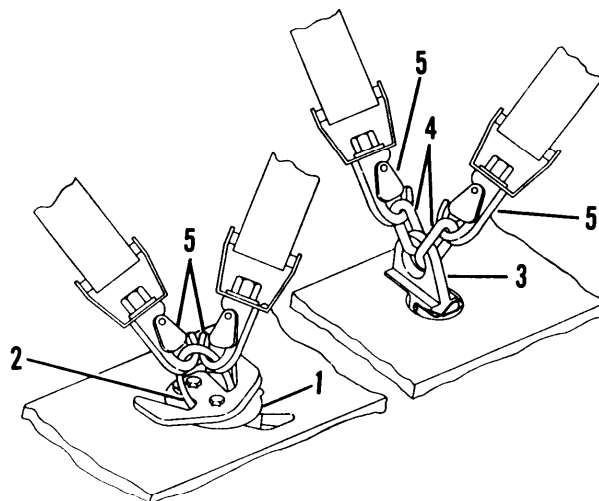

Figure 2-12. Removable Tiedown Anchors
b. The fitting (1, fig. 2-12) is installed in holes located in side rails used for removable container locks. Installed through underside of side rail and rotated until locked into position.
c. Tiedown ring (2) of fitting (1) is rotated upwards for attachment of web strap.
d. Fitting (3) is installed in 1-3/4" diameter holes located in side rails so that spring loaded lock is engaged.
e. Tiedown ring (4) of fitting (3) is rotated upwards for attachment of web straps.
f. Hook (5) of web strap.